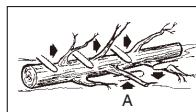

Fig. 12
Limbding a tree is the process of removing the branches from a fallen tree. Do not remove supporting limbs (A) until after the log is bucked (cut) into lengths (Fig.12). Branches under tension should be cut from the bottom up to avoid binding the chain saw.